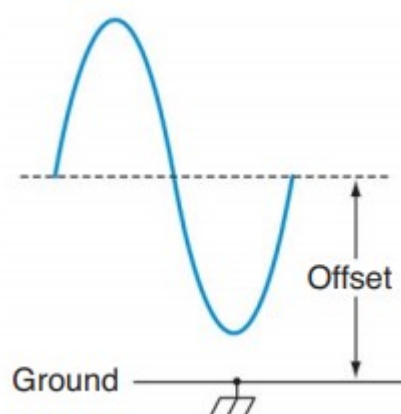

Figure 19: Offset to a signal.
**Offset:** Not all signals have their amplitude variations centred on a ground (0 V) reference. The “offset” voltage is the voltage between circuit ground and the centre of the signal’s amplitude. In effect, the offset voltage expresses the DC component of a signal containing both AC and DC values, as shown in Figure 19.